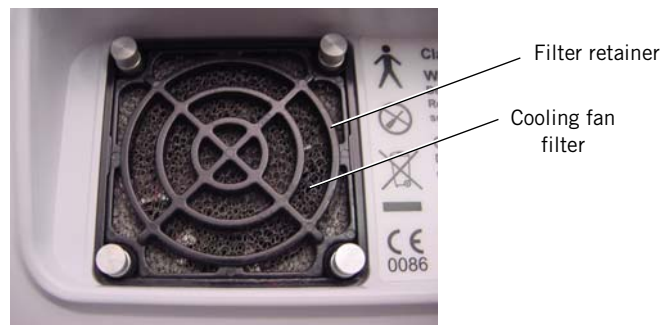

Figure 4-3: Cooling Fan Filter Retainer
12. From outside the bottom enclosure, remove the filter retainer and replace the cooling fan filter (Figure 4-3).